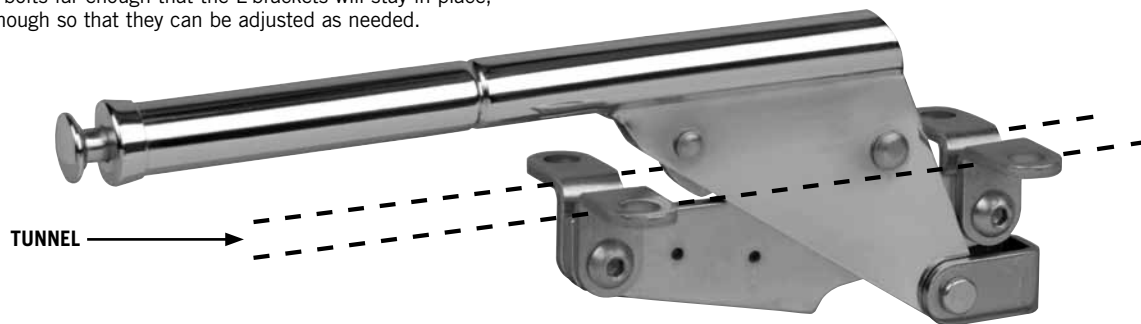

FIG. 1
Step 6: From underneath the vehicle, assemble the L-shaped mount brackets onto the hand brake mechanism as shown in **Fig. 1**. Tighten the bolts far enough that the L-brackets will stay in place, but loose enough so that they can be adjusted as needed.